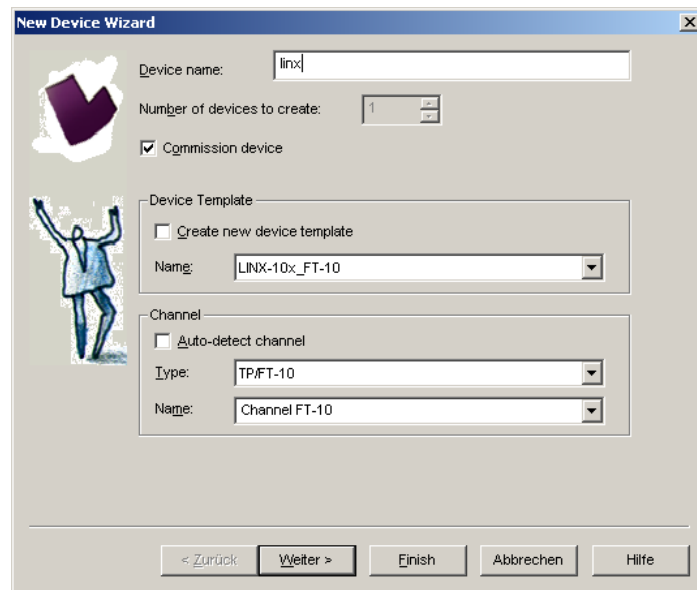

Figure 88: Create a new device in the drawing.
1. In your LonMaker drawing, drag a device stencil into the drawing. Enter an appropriate name as shown in Figure 88.